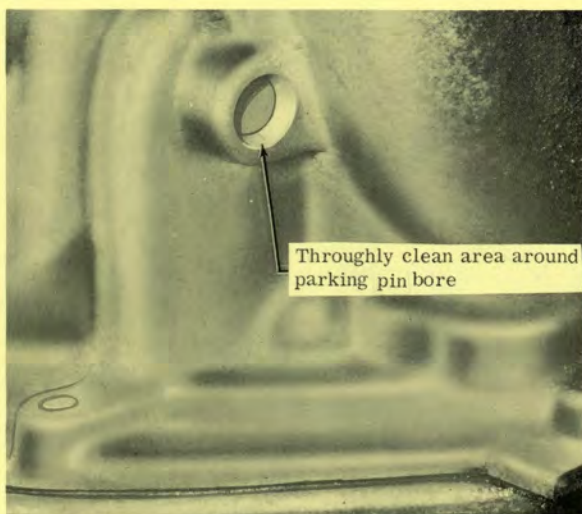

FIGURE 1
If a forward clutch failure is encountered in a Super Turbine 400 transmission, it is very important that the forward clutch feed orifice (see figure 1) be checked for being blocked or partially restricted. It is recommended that a small wire be inserted through this feed orifice to make certain it is open. There is a possibility that a limited number of 1965 transmissions were built without the feed orifice drilled. If a case is encountered where the feed orifice was not drilled, a new forward clutch housing, Group 4.169, Part No. 8623791, must be installed.
1. Raise car on a hoist or jack stand; thoroughly clean area around parking pin bore (See Figure 1) with a cleaning solvent and brush; air dry.
2. Make certain rear suspension components are properly torqued. See Figures 1, 2, 3, and 4 for proper specification for 1964-65 models.
Starting with 1965 transmission code number 214, a revised pump to case gasket went into production on all Super Turbine 300 transmissions. The gasket used before transmission code number 214 provided for venting six of the eight pump to case attaching bolts. The new gasket provides venting for the remaining two locations. See figure 1. Because of space limitations, the additional two bolt holes are vented with radical cuts rather than elongated slots. Venting the attaching bolt locations reduces the possibility of an oil leak in this area.